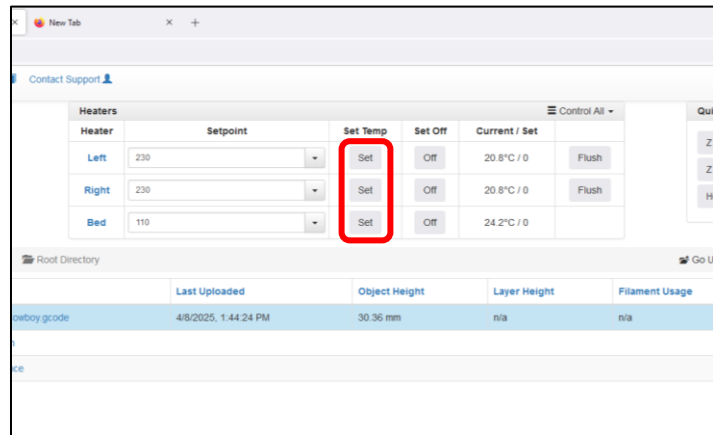

Figure 25: Clicking Set will begin heating the print bed and extruders.
- 6) Click each of the three Set buttons. (Figure 25)